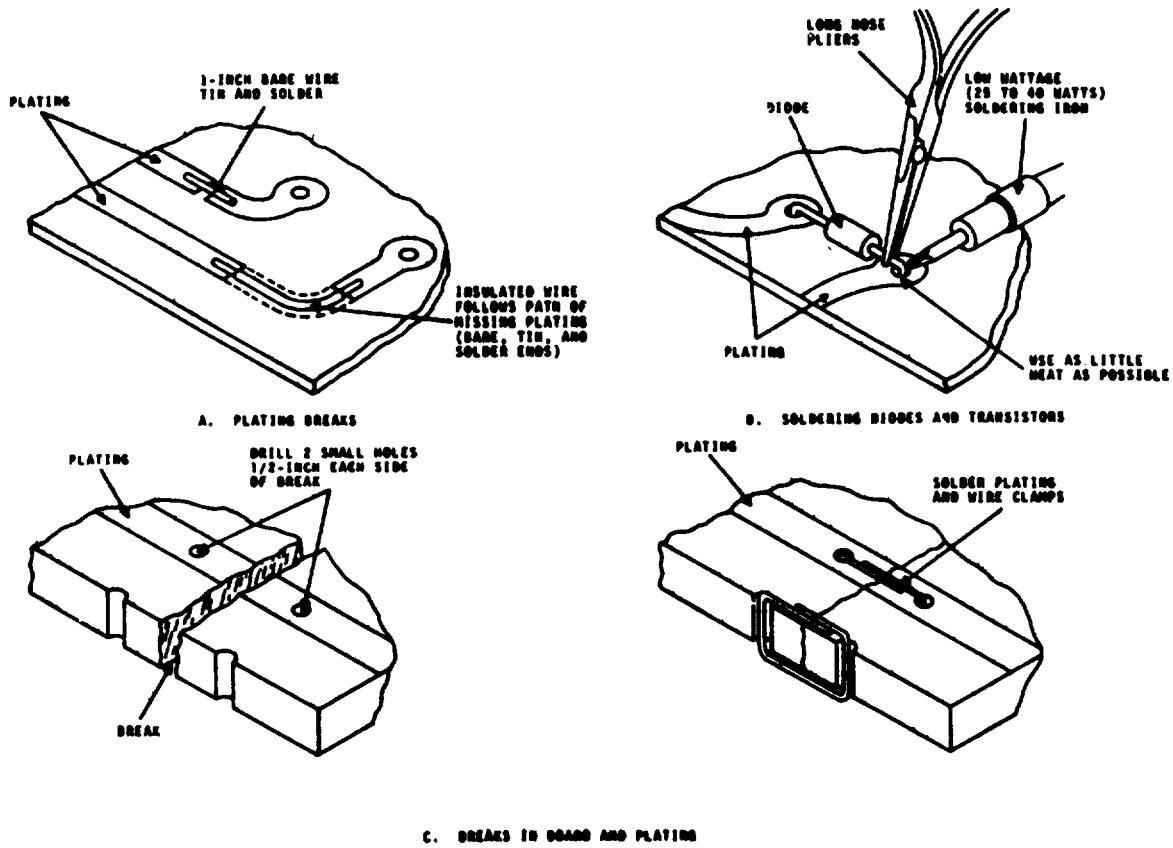

Figure 5-1. Printed Circuit Board Repair Techniques
a. REPAIRING PRINTED CIRCUIT BOARDS. (Refer to figure 5-1)
of plating, or the board itself, is broken, it can be repaired as shown in figure 5-1. The printed wiring is covered with a fungus proof coating, therefore, the coating should be removed in the area to be repaired before soldering.